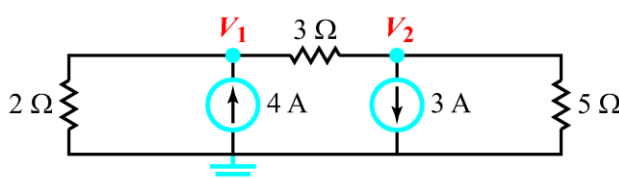

Fig 1.
1. [6%] Apply the node-analysis by-inspection method to generate the node voltage matrix for the circuit in Fig 1.